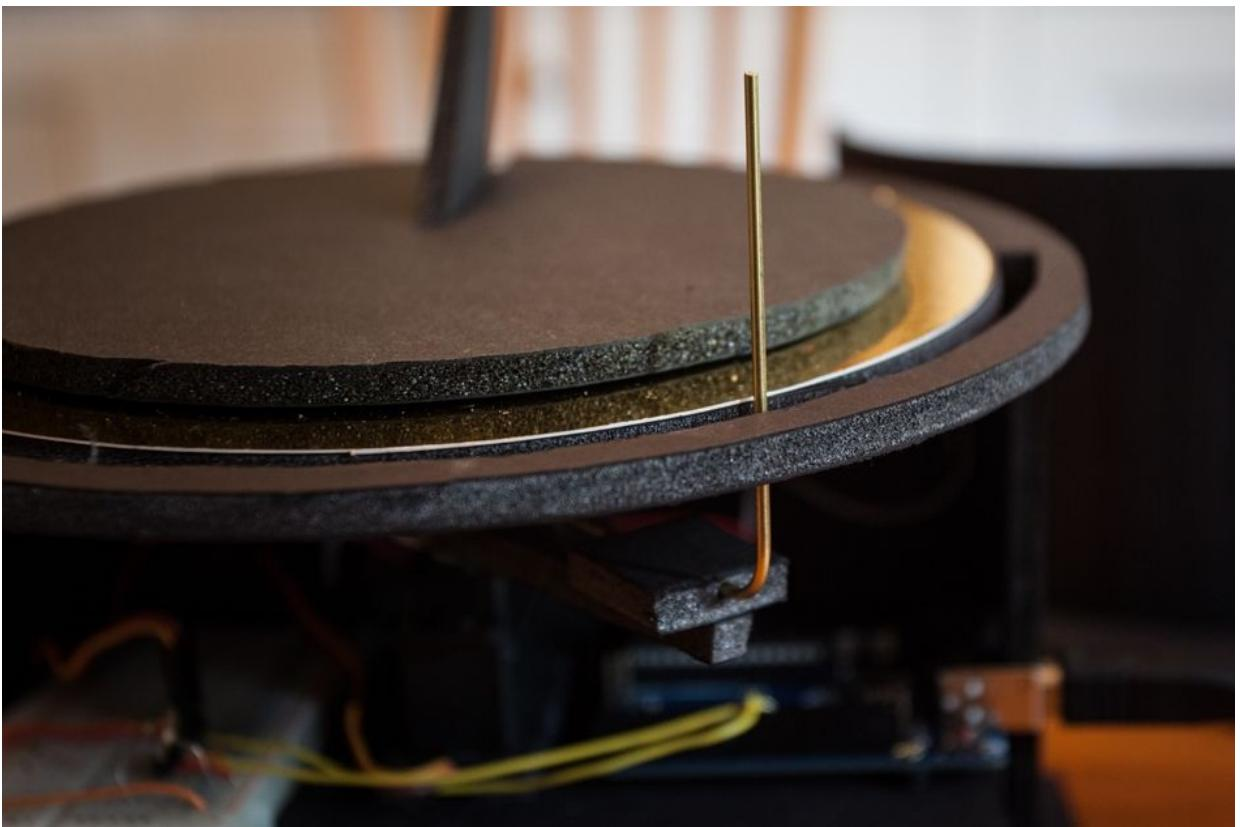

Figure 7-16. Alignment of the azimuth arm through the main disks
6. Attach the arm to the servo and then align the base disk on the base. The wire should poke up through the track in the base disk (Figure 7-16).